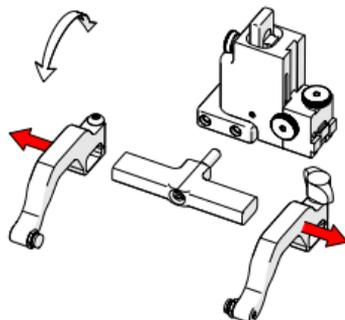

Fig. 123 - Remove probe holder arms
3. Loosen the arm clamp screw and probe holder arm adjustment knob allowing removal of the probe holder arms (Fig. 123).